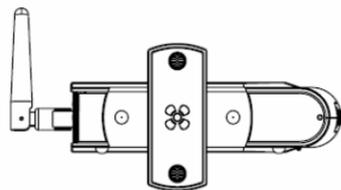

Figure 1: Device Stand at 90 Degree Angle
4. When this device is placed upright with the aid of the stand, the stand must be fixed at a 90 degree angle to the device. Otherwise, the device has the risk of tipping over. Refer to Figure 1.